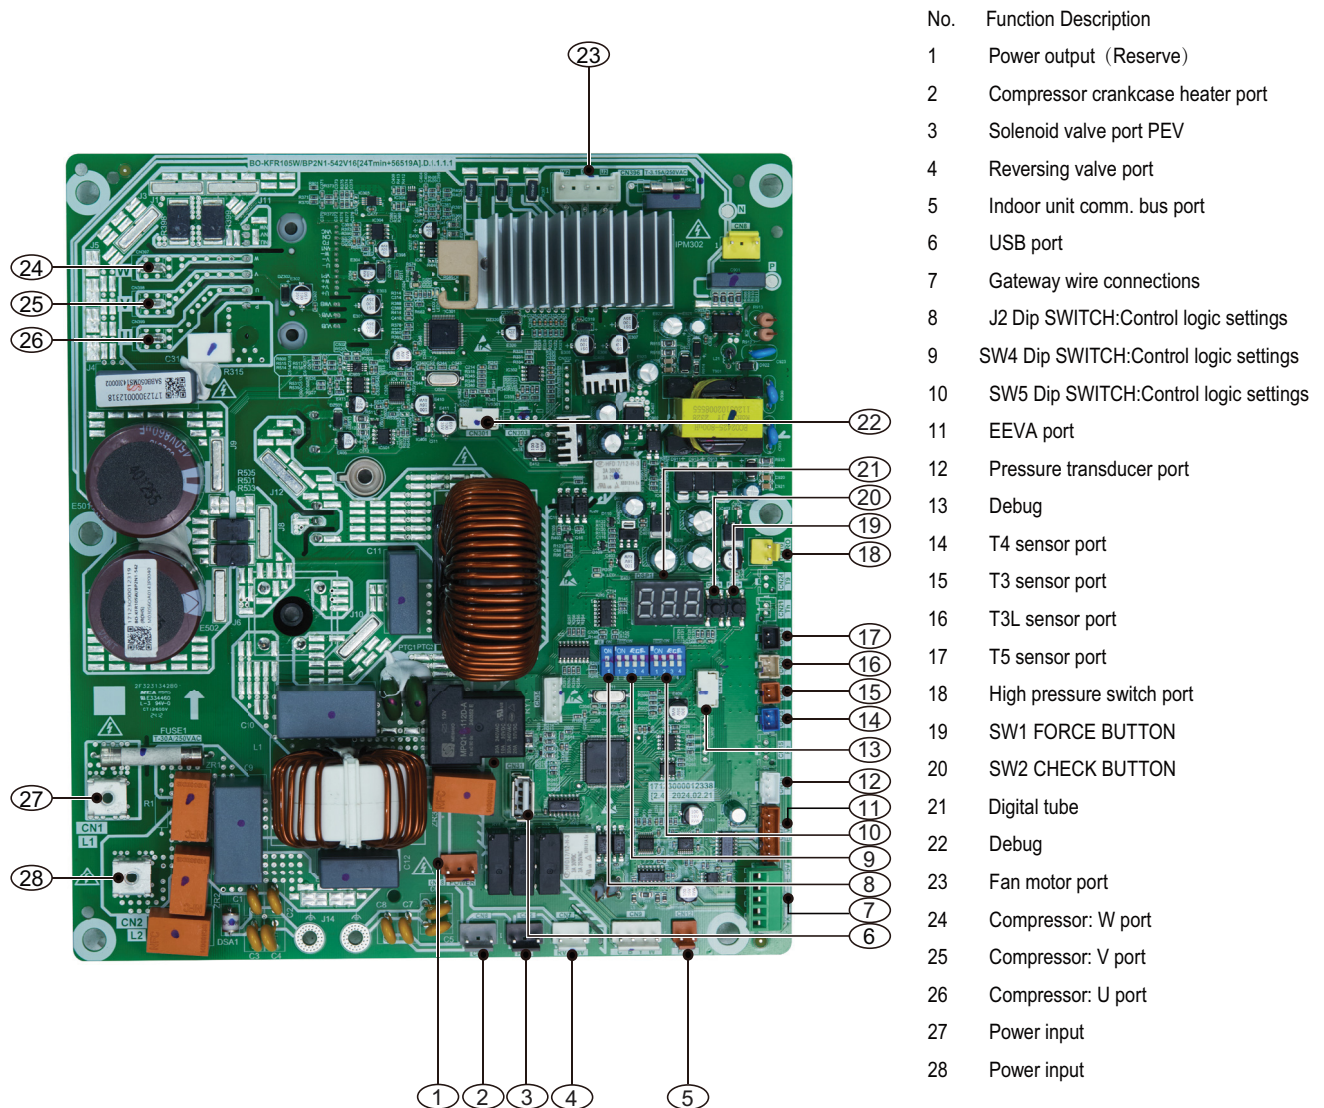

Figure 31
- To display system parameters, press the "Check" button to index through the series of parameters available. The first time you press the "Check" button, it will display the sequence, and after 1 second it will display the value of the parameter. If you press the "Check" button again, it will display the next sequence. Refer to Figure 31 and Figure 32 for check button location on the control board.